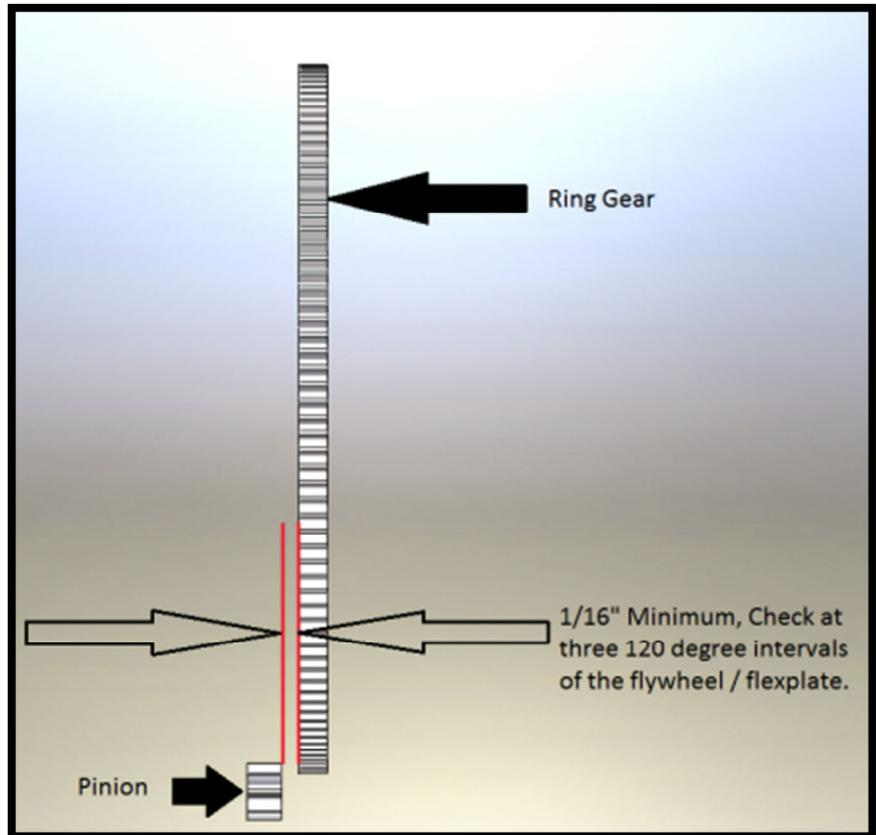

Figure 2: Pinion to Ring Gear Face Distance
STEP 5. With the starter installed and clocked at the best position, check clearance between the faces of the ring gear and pinion gear. There should be at least 1/16" (.0625", 1.6mm) space between gear faces. Please see Figure 2.